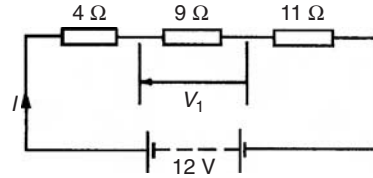

Figure 5.4
- The circuit diagram is shown in Fig. 5.4